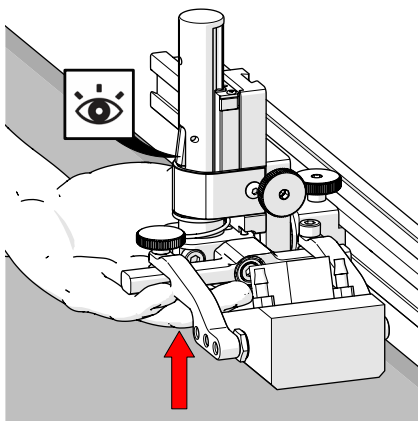
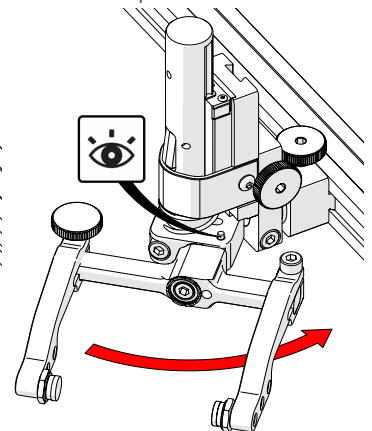

Fig. 111 - Latch probe holder
Fig. 117 - Stop post locates 90°
until the latch is fully exposed and snaps out to lock (Fig. 111).
1. Ensure the probe holder is in the latched upper position (Fig. 111).
To return the transverse adjustment to neutral (90°). The probe holder must be in the latched, upper position (Fig. 111). Rotate the yoke until the stop post contacts the base of the probe holder (Fig. 117). Then tighten the transverse adjustment screw.
- Ensure the probe holder is in the latched upper position (Fig. 111).